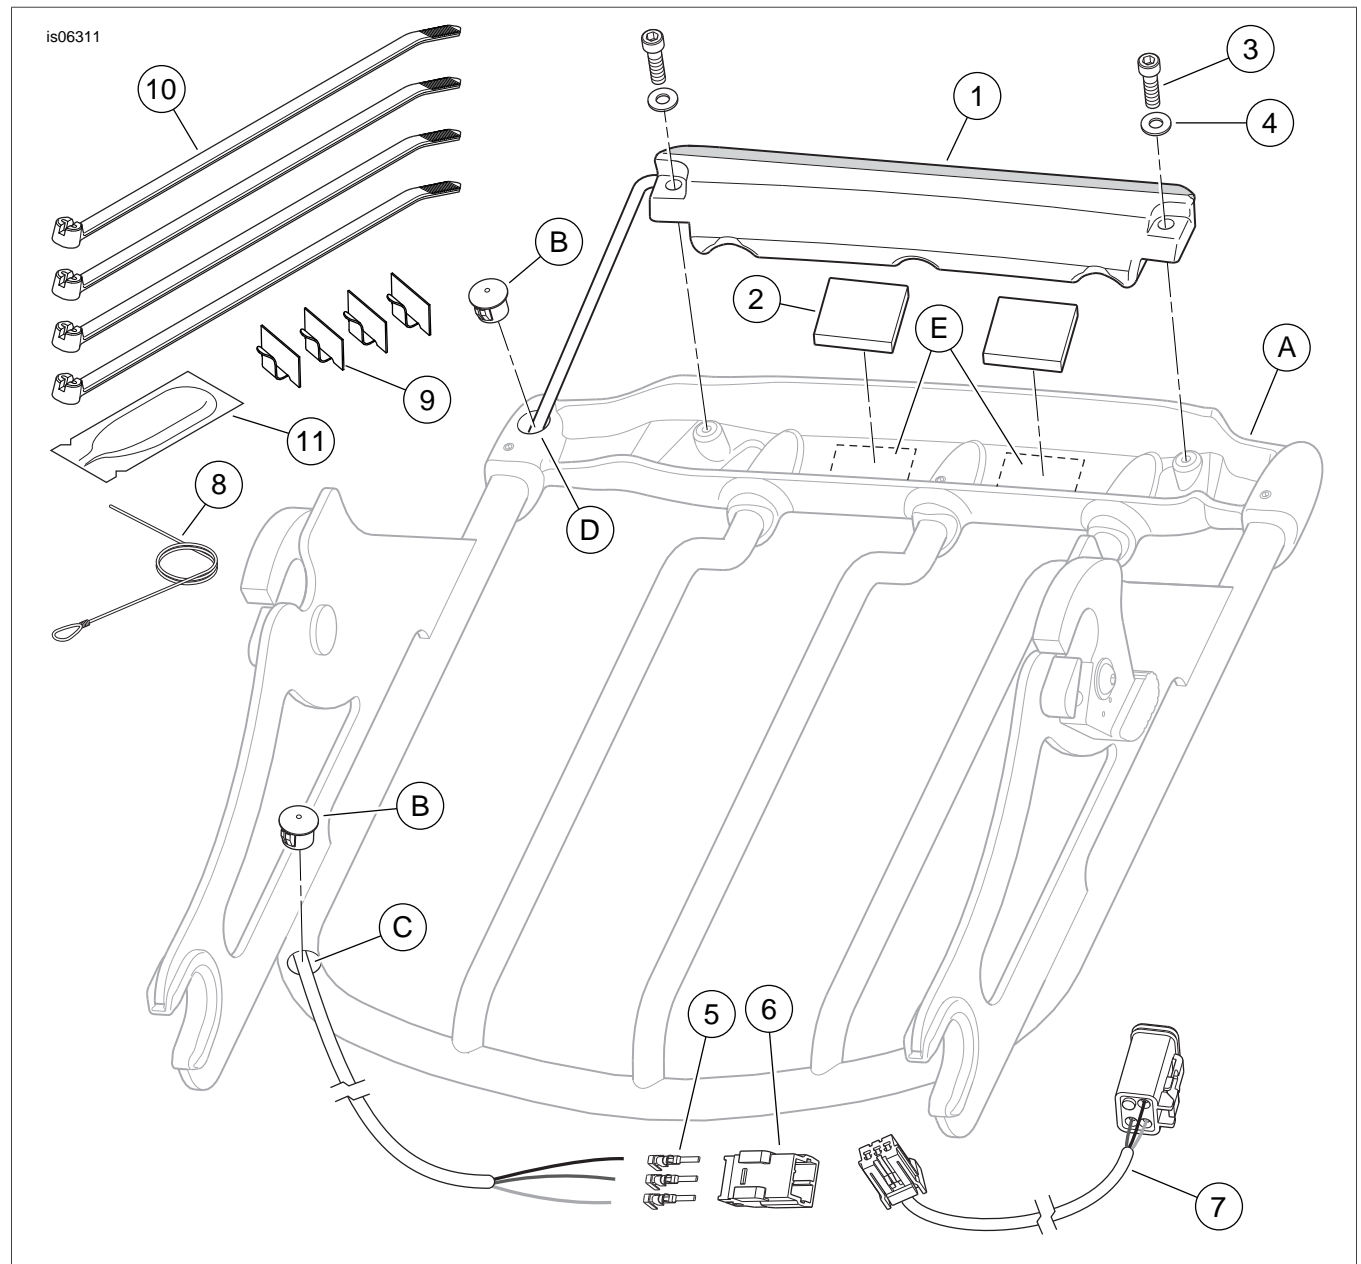

Figure 3. Service Parts, Air Wing Detachable Luggage Rack Light Kits
See Figure 3 and Table 1.
See Figure 3. If installed, remove the Air Wing Detachable Luggage Rack (A) from the vehicle and place it upside-down on the work surface.
2. Remove the black plastic plugs (B) from the holes at the front and back of the left side rail.
3. Insert the loop end of the nylon monofilament guide wire (8) through the forward hole (C) in the rail, and out through the rear hole (D). Allow the straight end to remain outside the forward hole.
4. Firmly attach the three wires of the light assembly (1) to the loop of the guide wire. Carefully pull the straight end of the guide wire to draw the wires and shrink tubing into and through the rail, and out the forward hole.
6. Remove the liner (4) from the adhesive backing on **one side** of a pad (2). Carefully position the pad to the top surface of the light (1), between the clearance notches, and press firmly into place. Repeat with the second pad.
7. See Figure 3. Remove the remaining liner from both pads, and install the light to the rear cross bar with two socket head screws (3) and flat washers (4), drawing the wiring out the forward hole (C) as the light is set in place. Tighten the screws securely.